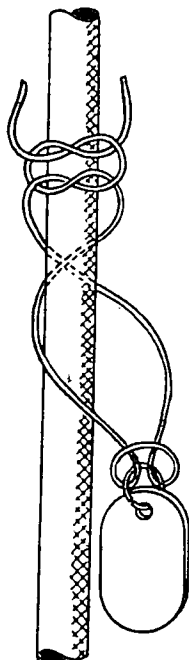

FIG. 2 145C NUMBER PLATE AND METHOD OF TYING (PAR. 2.52)
2.52 The 145C number plate as covered in the numbering and lettering information may be used to permanently designate a power lead. It consists of a small fiber tag joined to a brass ring. Use No. 12 twine in tying the plate to the wire as illustrated in Figure 2.